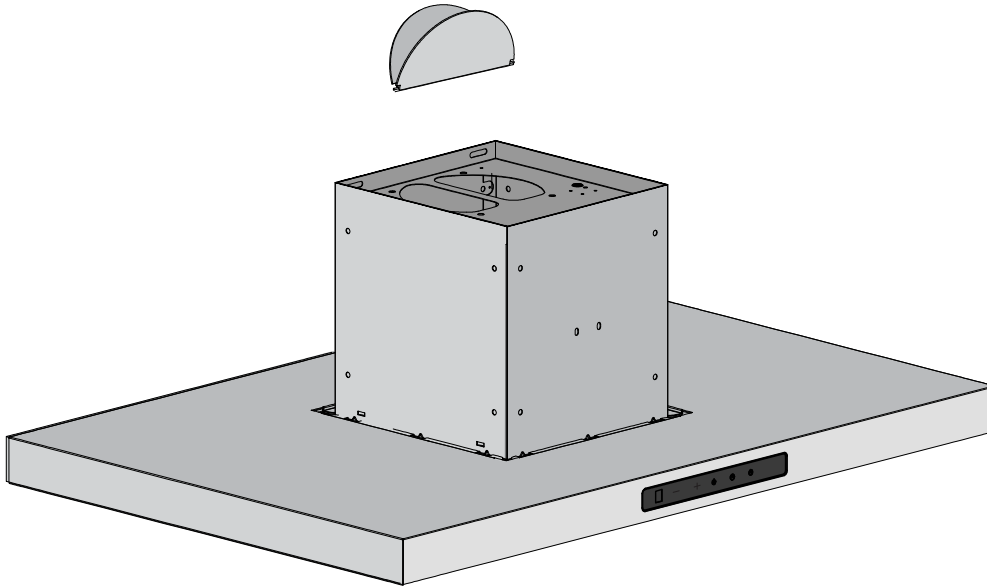

Figure 3
- Fix the damper flap on top of the range hood motor box (see Figure 3).